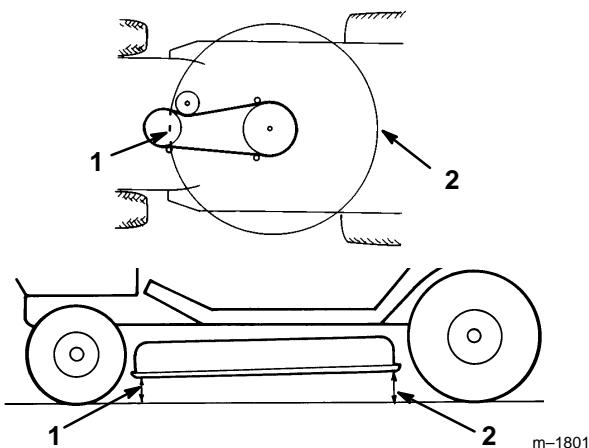

Figure 48
5. Check the front-to-rear blade slope by measuring between the bottom of the mower (front center and rear center) and the flat surface (Fig. 48). If the front of the mower is more than 5/8" (16 mm) lower than the rear of the mower, an adjustment is required; refer to steps 6-10.